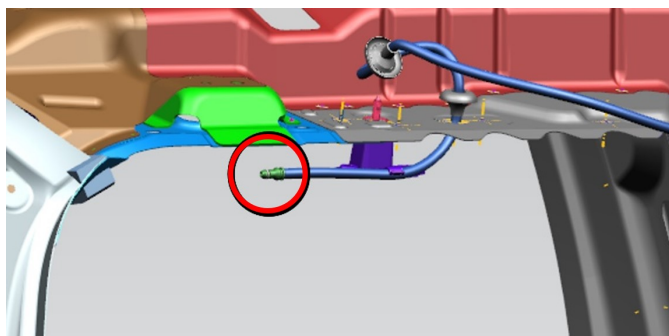

Fig. 3
7. **Inside Cabin, Rear Headliner Leaks (Fig. 3)** . Open the liftgate.
9. Verify the connection (Fig. 3) with a push-pull-push test and confirm connection is tight. Release headliner.